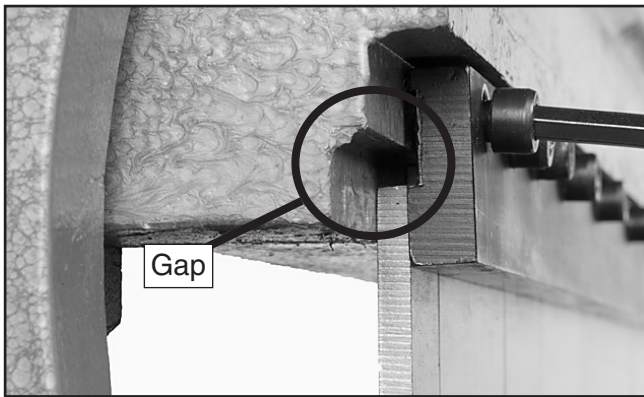

Figure 12. Installing fingers.
10. Install the fingers so the widest fingers are to the right of the machine. It is okay if a gap exists (Figure 12) between the finger and the finger seat at this time. The gap will help with finger installation.